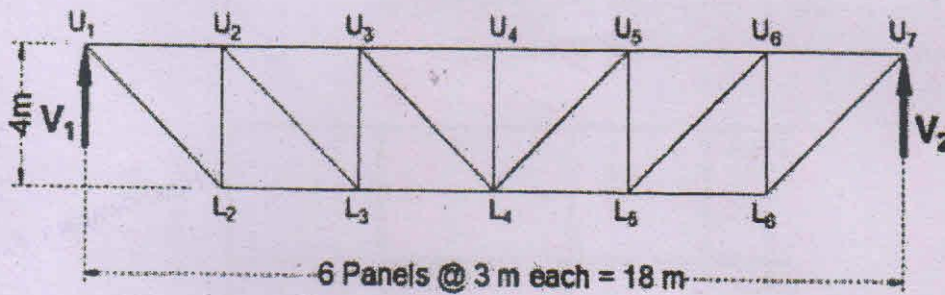

Figure 5
- (c) Draw the influence line diagram for the forces in the members U_2U_3 and U_3L_3 of the through type bridge truss shown in Figure 5. (3 + 4)